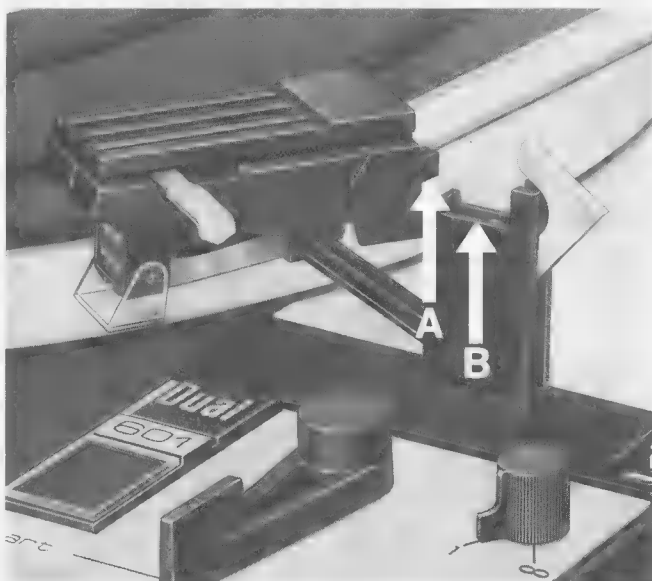

Fig. 29
Der Tonarm ist ausbalanciert, wenn Kante "A" des Tonarmkopfprofils und Kante "B" der Tonarmstütze auf gleicher Höhe sind (Fig. 29), oder wenn der Tonarm sich nach Antippen in vertikaler Richtung wieder von selbst in die horizontale Lage einpendelt. Beim Ausbalancieren des Tonarmes muß dieser von der Kinematik entkoppelt sein. Tonarmlift in Stellung **V** bringen und eventuell Plattenteller von Hand im Uhrzeigersinn (einige Umdrehungen) drehen.
1. Set stylus pressure dial (6) and anti-skating dial (8) to "0" (zero).
3. If the tonearm does not come to rest horizontally, loosen setscrew (F) and slide the counterbalance with its shaft until an approximate balance has been achieved. Then secure the shaft of the counterbalance by tightening the setscrew.
4. Now find the exact balance by turning the counterweight. The tonearm is exactly balanced when edge "A" of the tonearm head profile is at precisely the same height as edge "B" of the tonearm rest (Fig. 29), or when the tonearm, tapped vertically, returns automatically to the horizontal position. When balancing the tonearm, the automatic mechanism must be disengaged. To be sure of this, place the cue control in position **V** and turn platter by hand clockwise a few rotations. Precise tonearm balance is most important for cartridges especially with low stylus pressure. Balancing need be done only once. We recommend, however, that you occasionally inspect the tonearm.